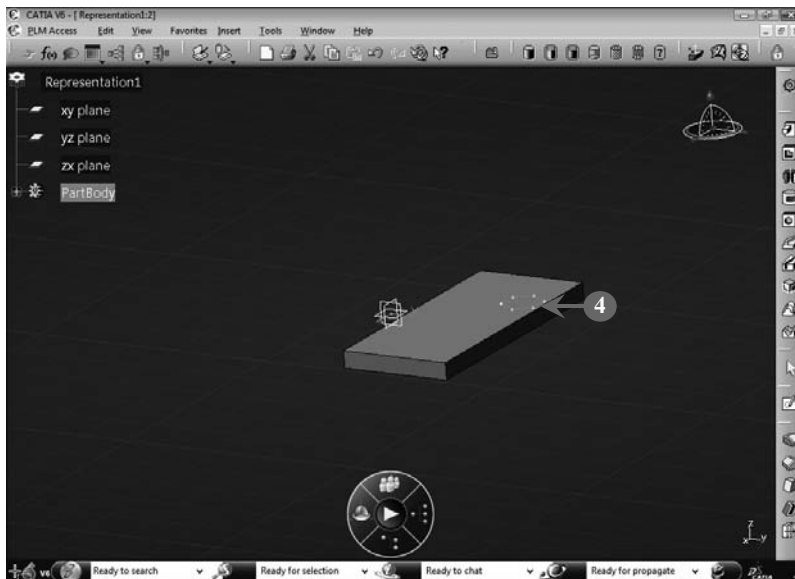

FIGURE 3.107
4. Open the sketch in the Part Design workbench, as shown in **Figure 3.107**: